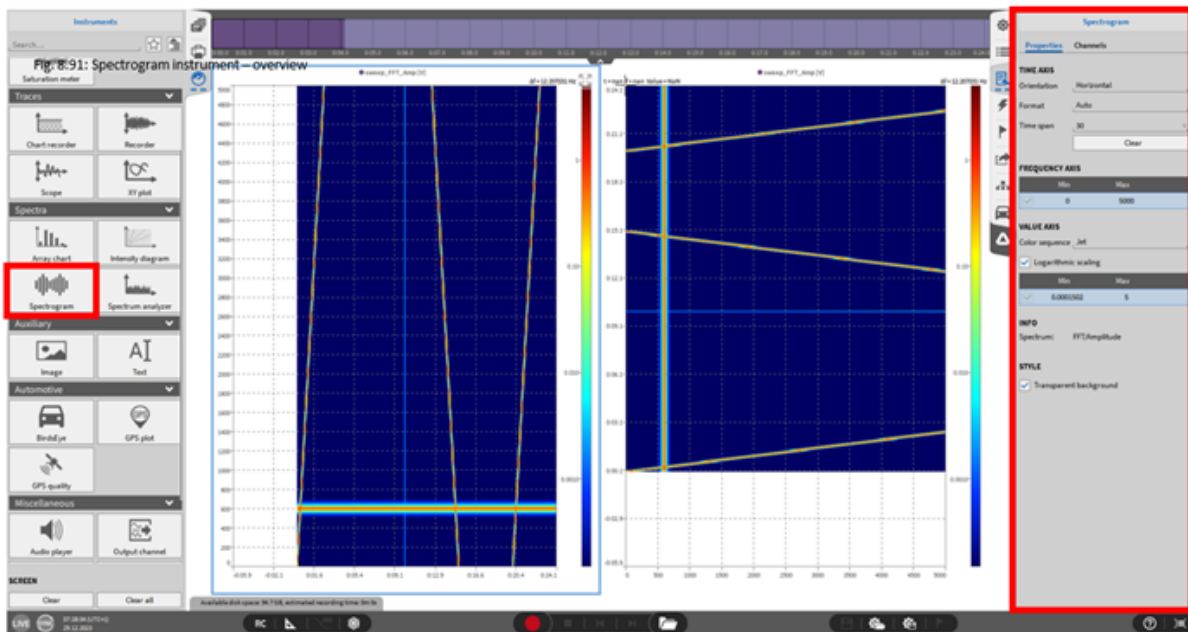

Fig. 8.50: Spectrogram instrument – overview
The elapsed time is displayed on the X-axis, the frequency on the Y-axis and the amplitude of the signal is Color-Coded to the Z-Axis (Left instrument in Fig. 8.50).
- Time Axis – Orientation: *Horizontal* orientation assigns the time axis to the X-axis of the instrument (see left instrument in Fig. 8.50) and *Vertical* orientation assigns the time axis to the Y-axis of the instrument (see right instrument in Fig. 8.50).